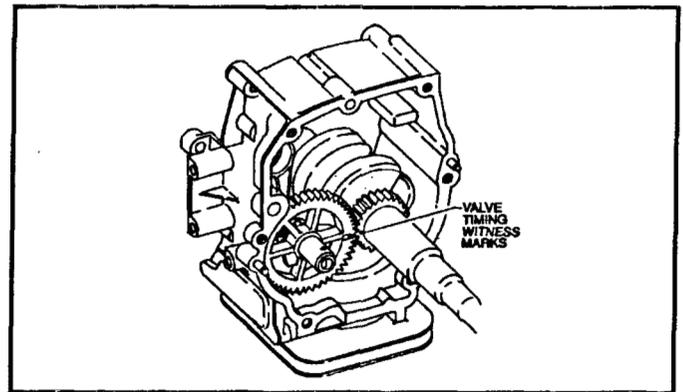

Figure 81
1. Match the timing mark on the camshaft with the timing mark on the camshaft drive gear on the crankshaft. See Figure 81.